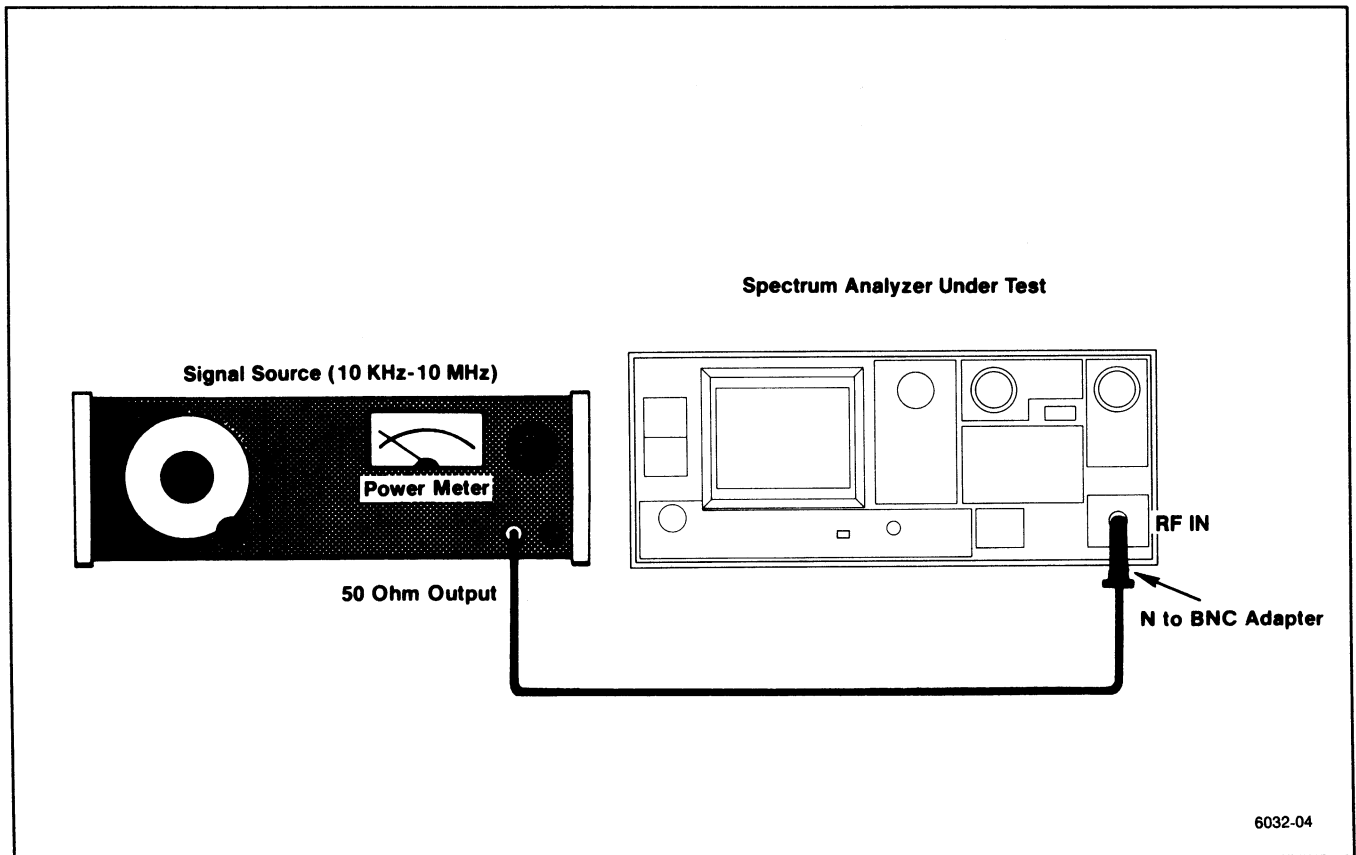

Figure 4-13. Test equipment setup for measuring 10 kHz to 10 MHz frequency response.
(1) Reconnect the test equipment as shown in Figure 4-13. Reset FREQUENCY to 10 MHz.
(2) Set the generator output for  $-20$  dBm at 10 MHz, and set the Spectrum Analyzer controls as follows: